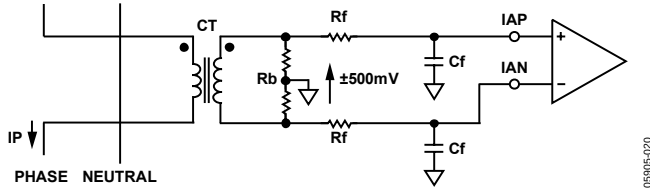

Figure 15. Typical Connection for Current Channels
Figure 15 shows a typical connection diagram for the current channel (IA). A current transformer (CT) is the current transducer selected for this example. Notice that the common-mode voltage for the current channel is AGND and is derived by center-tapping the burden resistor to AGND. This provides the complementary analog input signals for IAP and IAN. The CT turns ratio and burden resistor  $R_b$  are selected to give a peak differential voltage of  $\pm 500$  mV at maximum load.